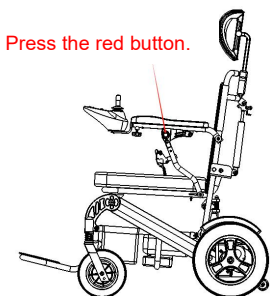

Figure 11
► **Reversible Armrests:** Press and hold the armrest catch to separate the catch from the frame to lift the front of the armrest upwards. (See Figs. 11 and 12)